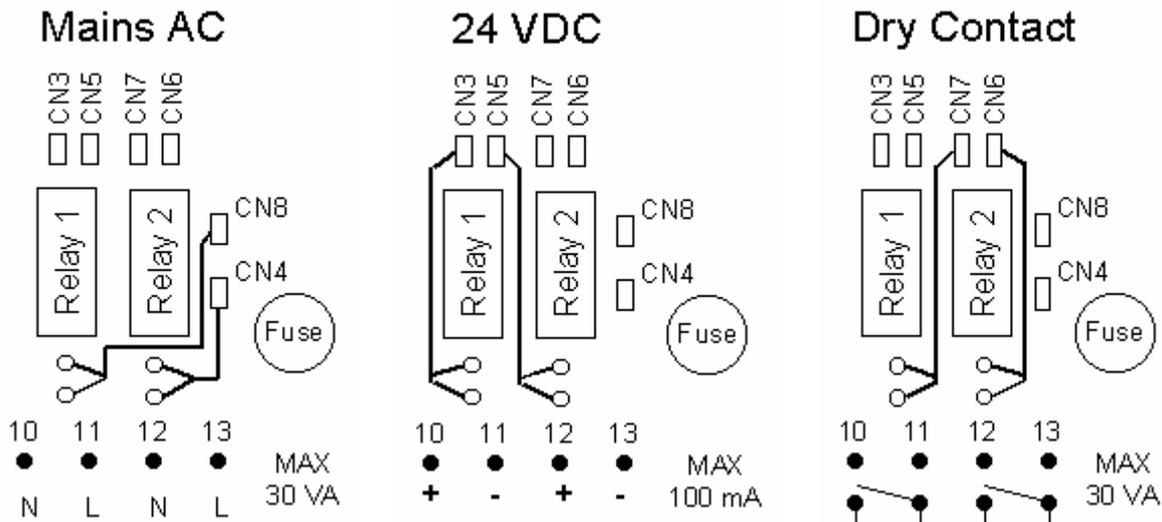

Figure 3. This drawing can also be found on the inside of the front door.
BB2 has two relay outputs, configurable for Alarm or Cleaning. The relays can be used as Dry Contacts, 24 VDC output, or Mains AC output by setting jumpers according to figure 3. **We do not recommend using 24 VDC outputs to drive solenoids.**
The relays are a normally open contact. Do not overpower the relay contacts (see figure 3 for max VA rating per relay).
1. Set the jumpers CN 3, 4, 5, 6, 7 and 8 to the proper voltage or power of the solenoid valve. (See Figure 3).
1. Set the jumpers CN 3, 4, 5, 6, 7 and 8 to preferred voltage (see Figure 3)